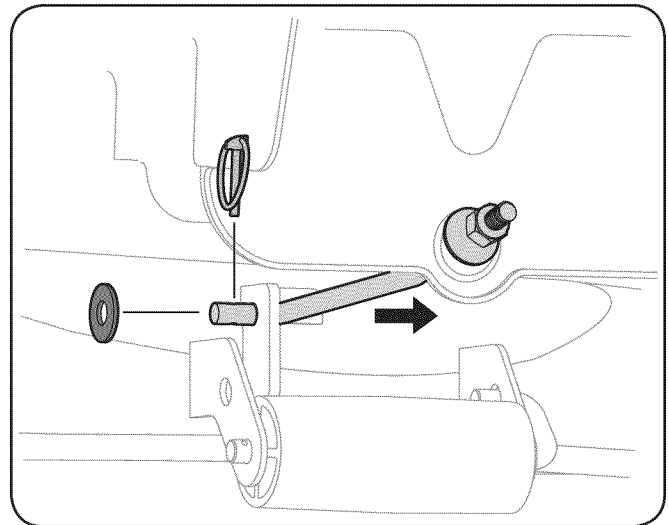

Figure 7-6
10. Remove the cotter pin from the end of the stabilizer rod and slide the stabilizer out of the hanger bracket on the deck. See Fig. 7-6.